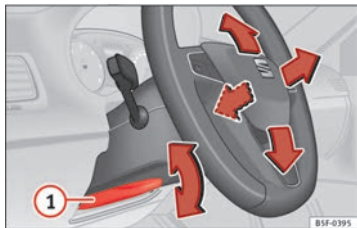

Fig. 120 Lever in the lower left side of the steering column.
- Press the lever ① ⇒ Fig. 120 down ⇒ ⚠.